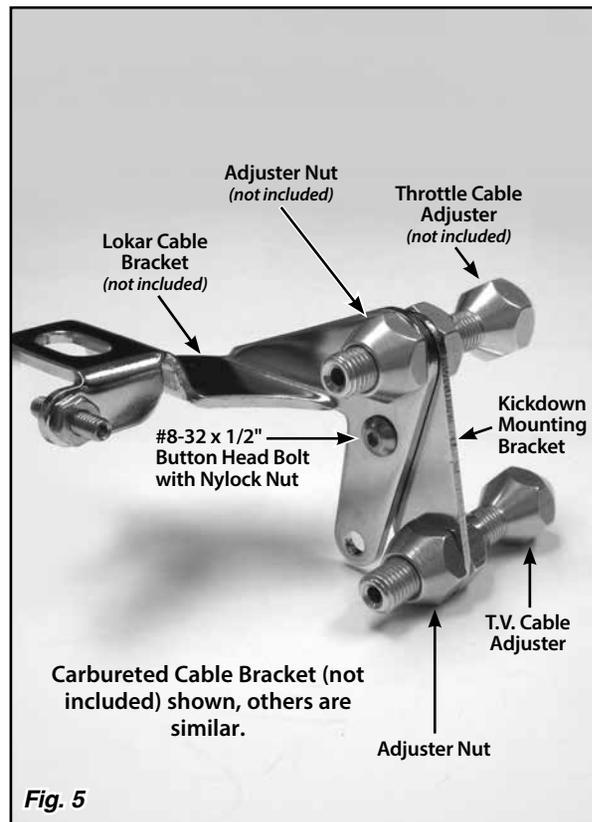

Fig. 5
Step 6, continued: Tighten the throttle cable adjuster nuts, the button head bolt and nut, and the T.V. cable adjuster nuts. **Fig. 5**